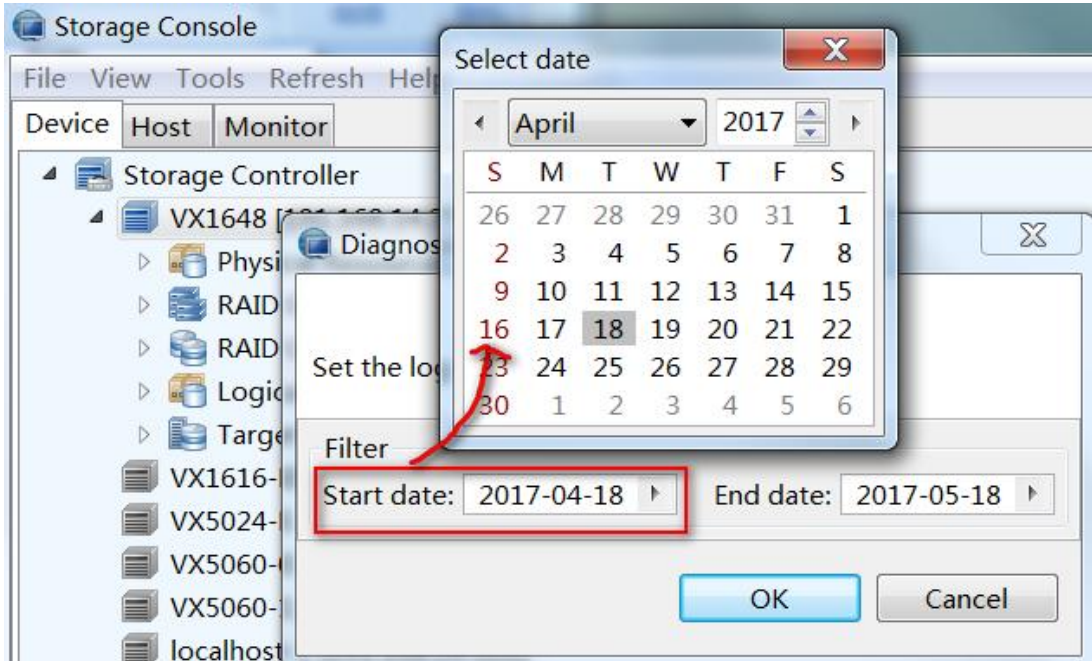

Figure 14-6 Selecting the date for diagnosis collection
(2) From the popup diagnosis box, select the start and end dates for the data to be exported, and then click **[OK]** button, as shown in the Figure 14-6: